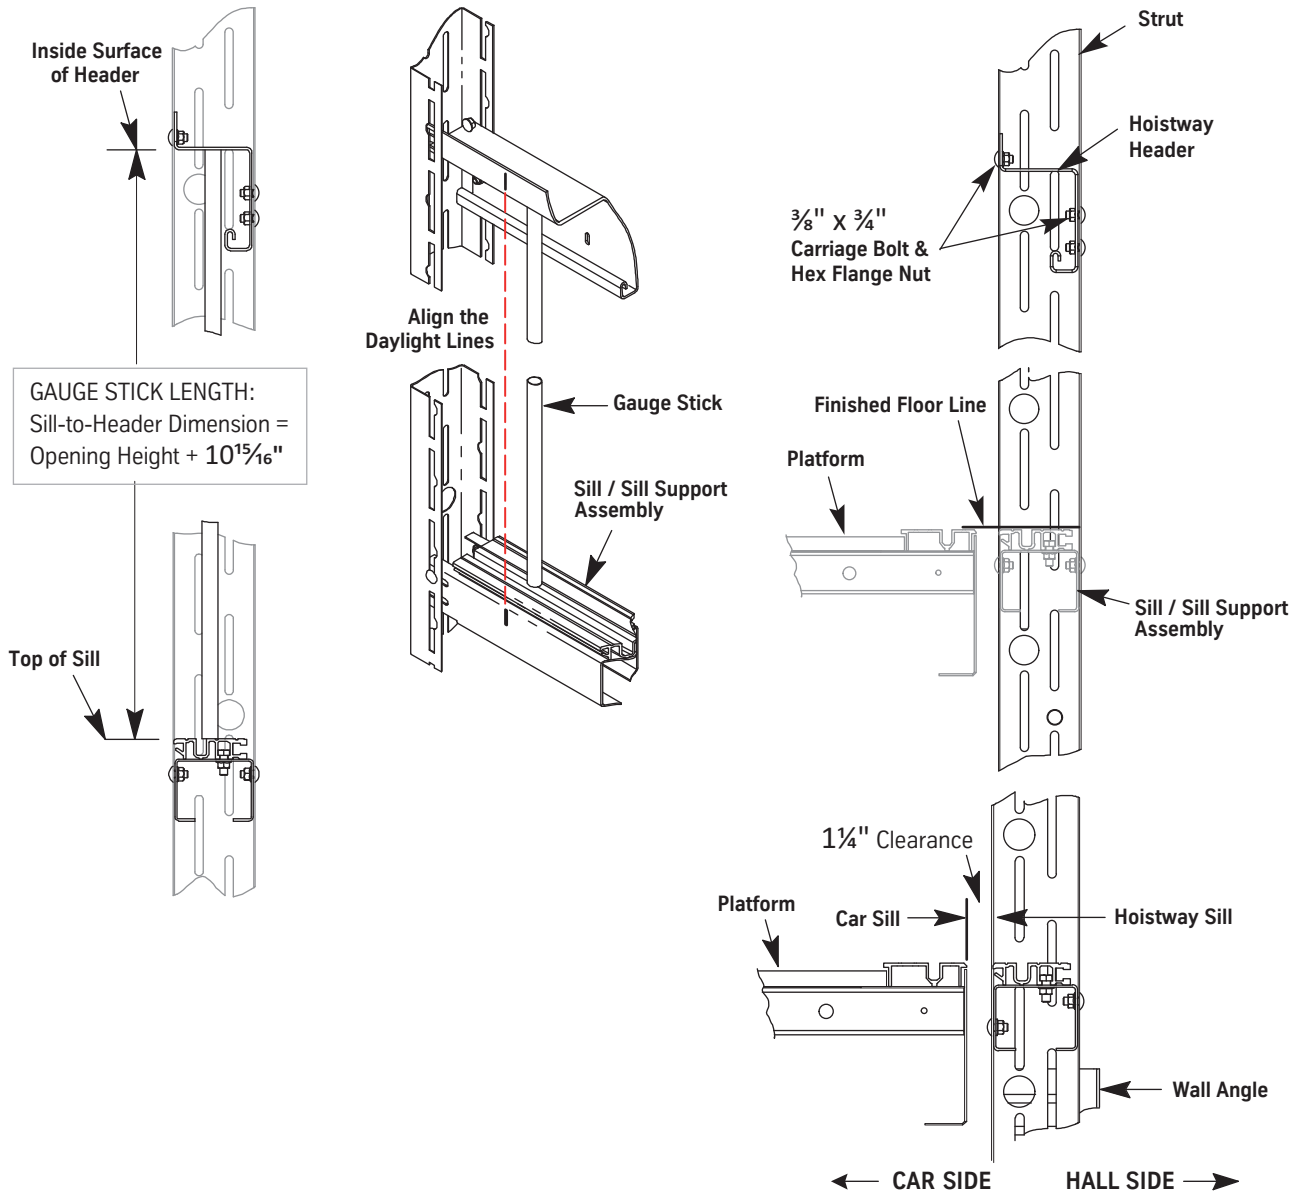

Figure 32- Install and Adjust the Hoistway Header
2. Place the gauge sticks on the sill of the landing below, one at each end of the sill. See Figure 32 on page 7-38 for all steps on this page.